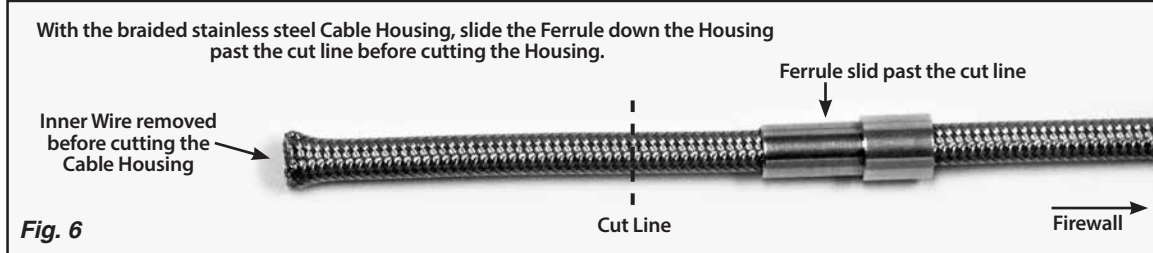

Fig. 6
Step 6: Route the cable housing up to the kickdown cable adjuster. **Make sure that the inner wire is removed from the cable housing!** If the cable housing is braided stainless steel, slide the ferrule down the housing towards the transmission, away from the end that is being cut. Fig. 6 **DO NOT remove the ferrule from the braided stainless steel housing!** If the cable housing is black universal, remove the ferrule.